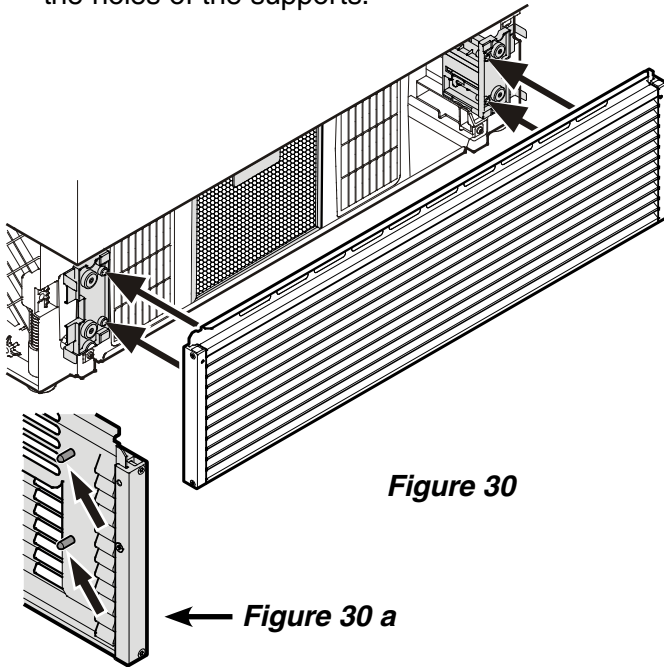

**Figure 29**
6. Insert the locking pins to block the supports (**Figure 29**).